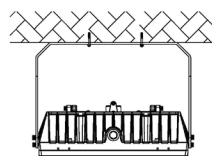

Figure 5
5. Hang the fixture into the lifting hook or chain and protect it from falling. (Figure 5).
7. After installation, please wire in accordance with local wiring standard, and make sure to take good waterproof measures at the joint of conduit. Users can adjust 30-60-90 degree to left or right from vertical downward direction by adjusting the screw on the bracket. (Figure 5. Figure A).